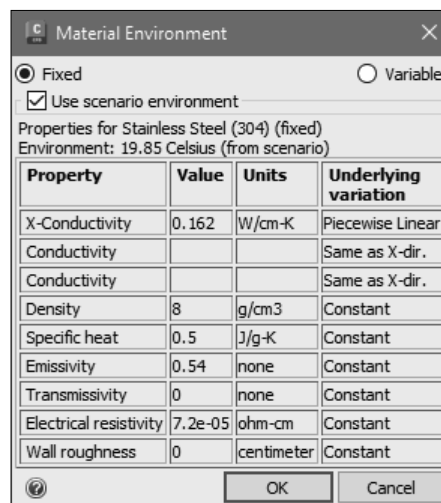

Figure-9. Material Environment dialog box
- Click on the **Set** button for **Environment** option, the **Material Environment** dialog box will be displayed; refer to Figure-9. The environment settings are applicable only to solid and fluid materials.